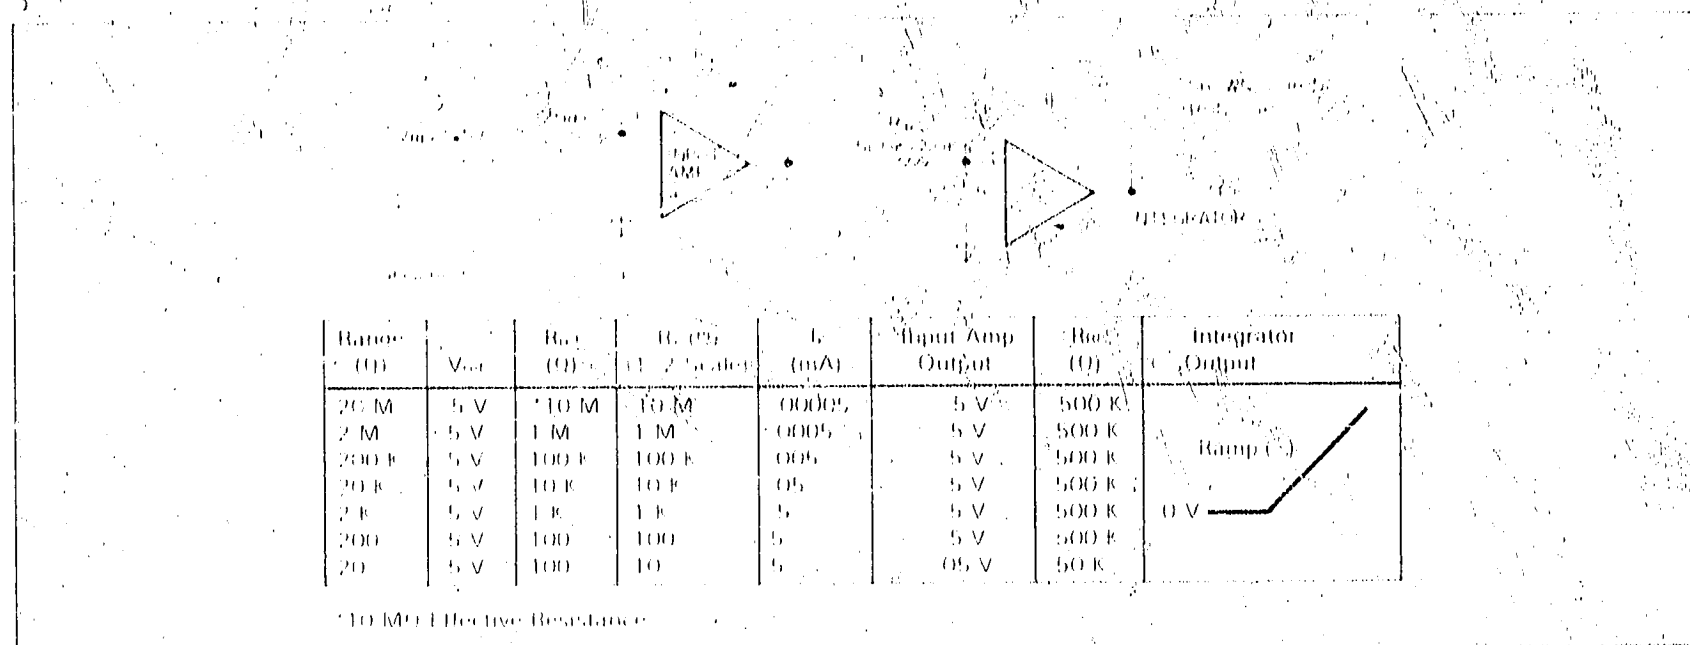

Figure 8-7. Ohm Gain.
8-36. U8 functions as a low impedance voltage source to R_{int} . It outputs 5 V in all ohmmeter ranges. This output voltage is dropped across R_{int} to a virtual ground provided by the Input Amplifier (C). The resultant current is the current thru the unknown resistance (R_x). Figure 8-7 further simplifies the gain configuration combining the Input Amplifier, associated compensation, and protection circuitry as an inverting Op Amp with R_{int} as the input resistor and R_f as the feedback resistor. The output of the Input Amplifier is the run up voltage to the A to D Converter.